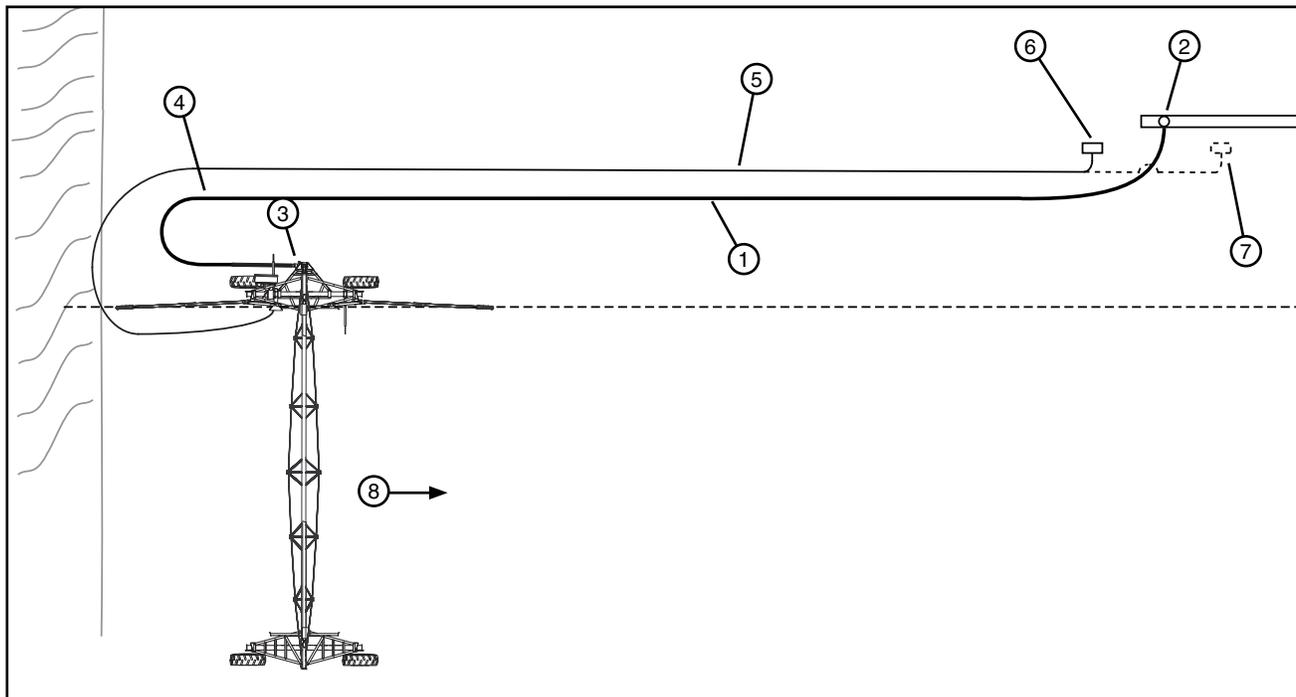

Figure 54-1 1. First Hose 4. Temporary Post (optional) 7. Alternate Power Pedestal Location and Electric Cord Position
1. Connect the first hose to the pipeline shut off valve and linear cart swivel inlet, then latch in place. See Figure 54-1.
- Temporarily installing a post approximately 6 ft (1.82 m) behind the linear cart and on the pipeline side of the hose will aid in connecting the polyethylene hose to the linear cart inlet. See Figure 54-1.
- (a) Position the electric cord far enough away from the hose, so that the hose will not drag over it. When applicable, prevent interference between the electric cord and hose by positioning the electric cord over the top of hose. See Figure 54-1.